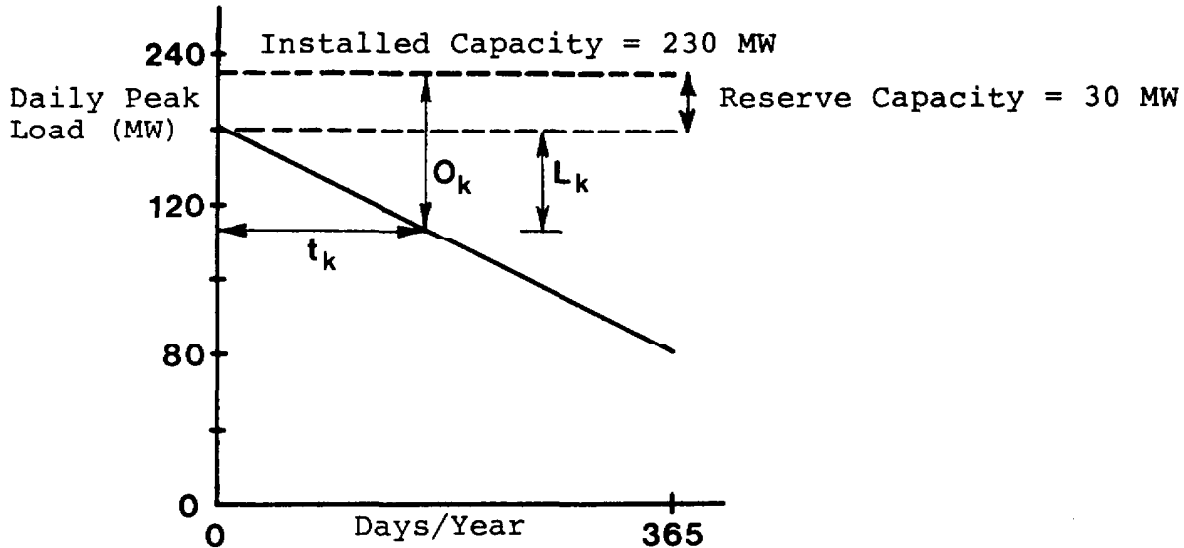

Figure 6
b) The annual daily peak load variation curve is shown in Figure 6.
By similar triangles in Figure 6,